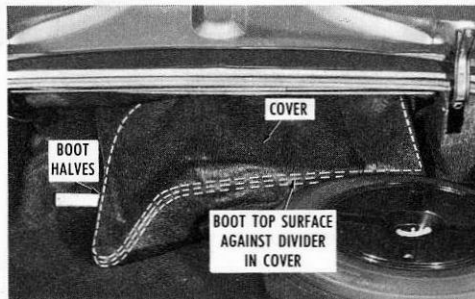

FIG. 2-25: BOOT STOWAGE IN TRUNK
- Insert boot panels into the protective cover, outboard end first, with the top surfaces against the cloth divider. Place the covered boot halves into trunk as shown in Fig. 2-25. For safety's sake, always store boot and boot protective cover in the trunk when not in use.